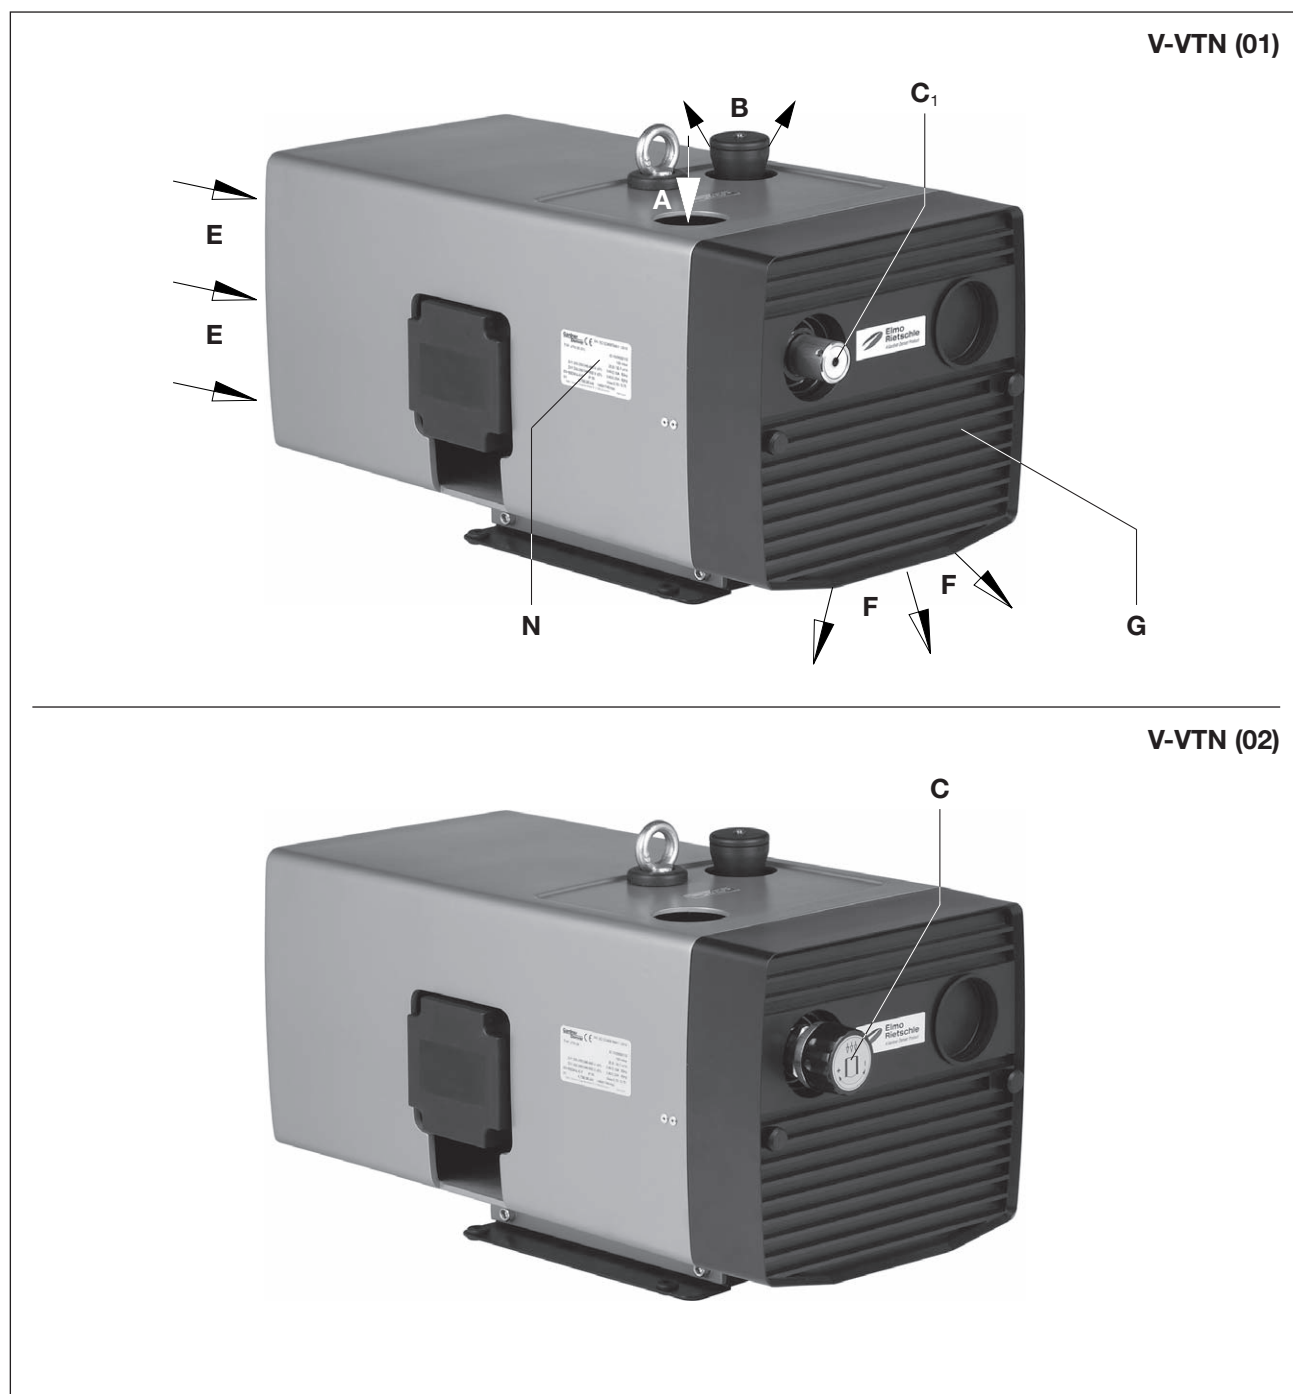
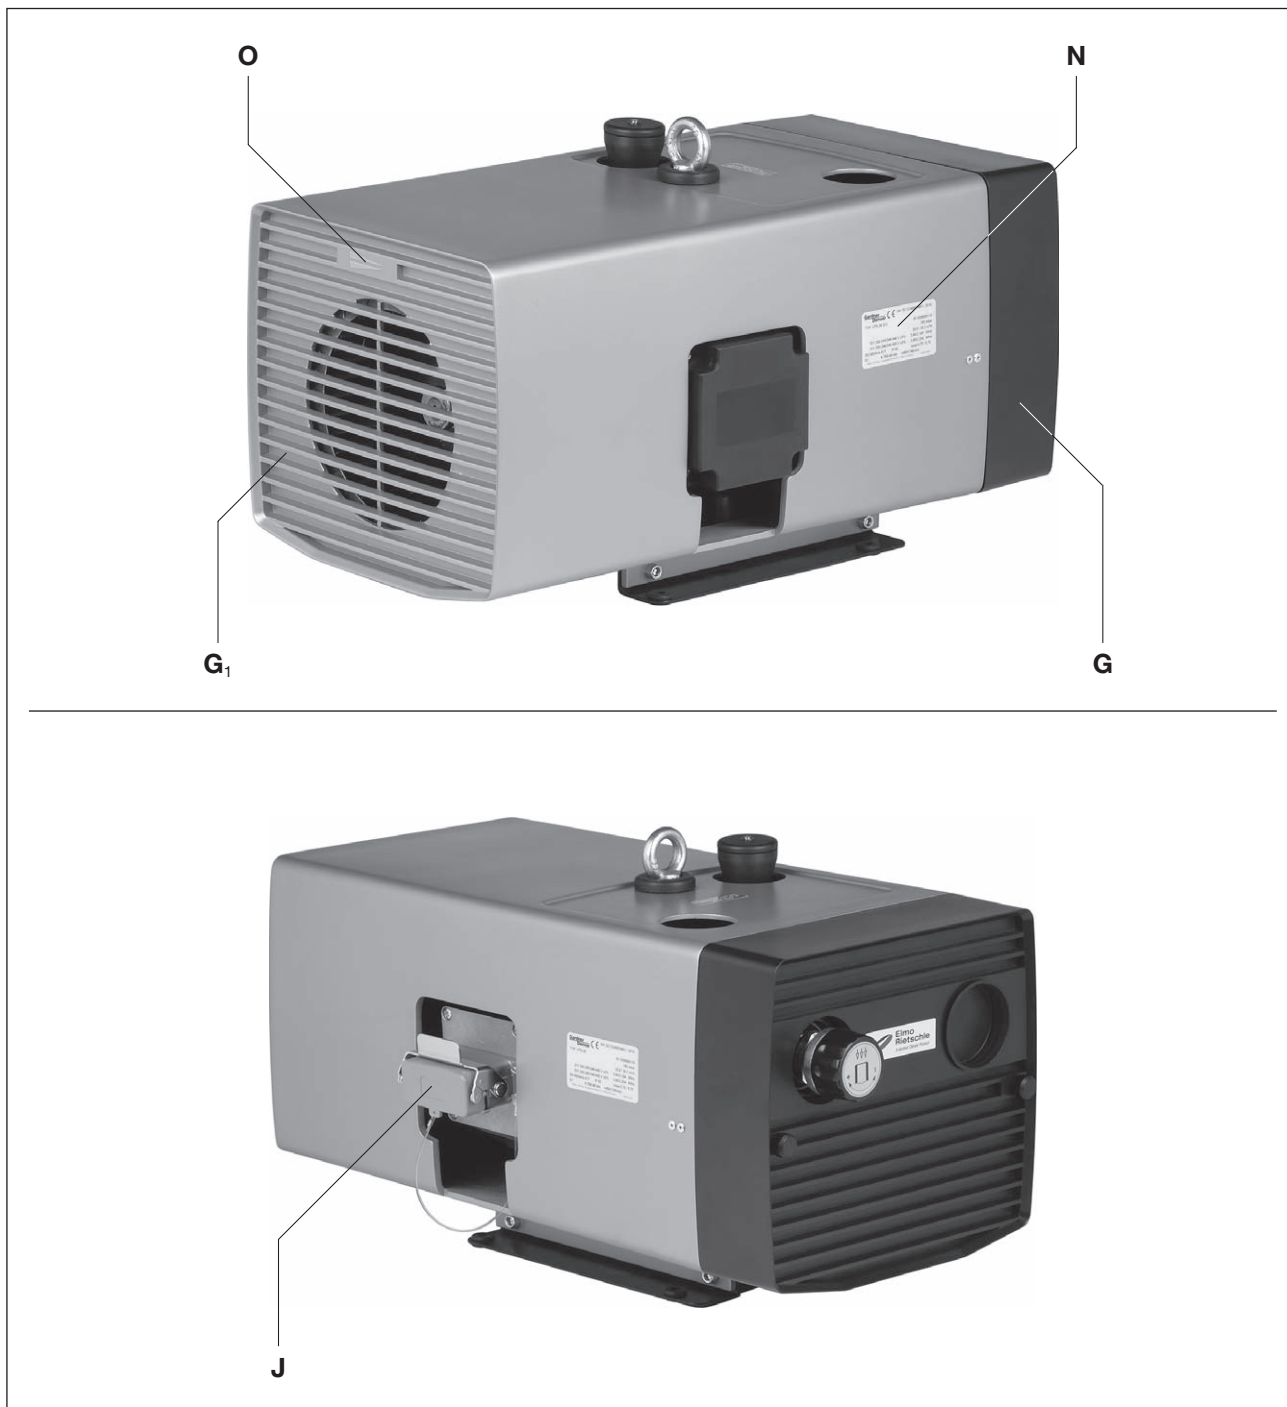

Fig. 2 Vacuum pump V-VTN (01) / V-VTN (02)
Fig. 3 Vacuum pump V-VTN
The V-VTN (02) has a vacuum regulating valve fitted as standard (Fig. 2/C) that enables the vacuum to be set to the required values which have an upper limit.
To remove the outlet grid (Fig. 3/G) and the inlet grating (Fig. 3/G1) at least 30 cm of space must be available for maintenance work. You must also ensure that the cooling air inlets (Fig. 2/E) and cooling air outlets (Fig. 2/F) must be at least 10 cm away from the nearest wall (outgoing cooling air must not be sucked in again).
- a) Vacuum connection at (Fig. 2/A).
The vacuum can be set by turning the control knob (Fig. 2/C) as shown on the symbol fitted to the button.
- a) The electrical motor data can be found on the data plate (Fig. 2/N) or the motor data plate. The motors comply with DIN EN 60034 and are in protection class IP 55 and insulation class F. The appropriate connection diagram is located in the motor's terminal box (not for the plug connection version). The motor data must be compared with the data of the existing mains network (current type, voltage, network frequency, permitted current value).
- b) Connect the motor via the plug connection (Fig. 3/J) or a motor protection switch (for safety reasons a motor protection switch is required and cable fitting must be provided to provide strain relief for the connection cable). We recommend using motor protection switches with delayed switch off, depending on possible excess current. Temporary excess current may occur when the machine is started cold.
- ▷ The drive shaft direction of rotation is shown by the rotation direction arrow (Fig. 3/O).